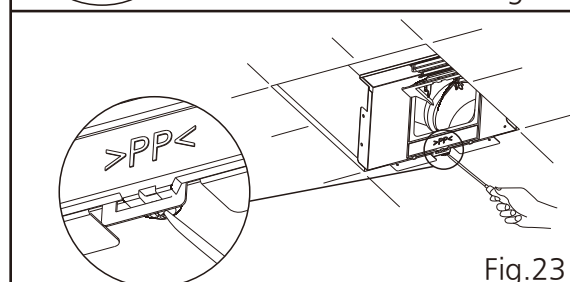

Fig.23
(1) Using 1 of the ST4.2X30 tapping screws provided in the accessory package to fix the hanger unit to the ceiling.(Fig.23)